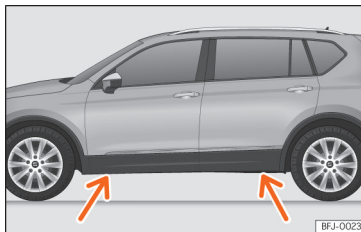

Fig. 76 Crossbar: brands.
- Find the support point on the strut (sunken area) closest to the wheel to be changed »» Fig. 76.